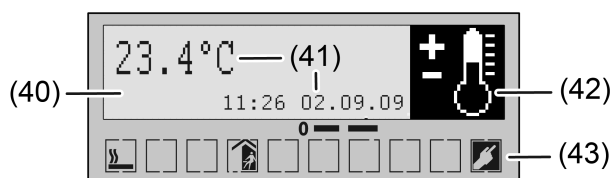

Figure 50: Device display with backlighting (example image)
On the front side of the device in the upper area, there is an LED display (OLED) with switchable and dimmable backlighting (figure 50). The upper part of the display has a graphics area of 132 x 30 pixels (40). This area is also called a "page". A page can display one, two or three lines of text (time, date, temperatures, formatted and unformatted values, running texts), as well as large graphic symbols (30 x 30 pixels). 30 graphic symbols are predefined in the device memory to show weather situations, the indoor or outdoor temperature, timer, shade or multimedia system, for example. The large symbols can be configured as necessary in the ETS and can also be switched via the bus using communication objects.